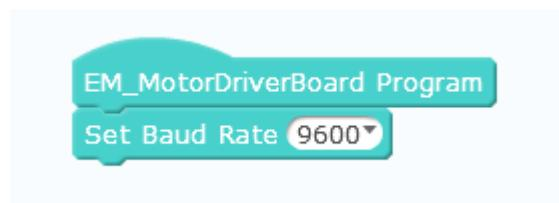

Figure 2-6
- 1) First, drag the EM\_MotorDriverBoard main program in the building block area to the script area with the mouse, and then drag the "Setting Serial Port Baud Rate 9600" to the bottom of the building block of the "EM\_MotorDriverBoard main program", as shown in Figure 2-6.